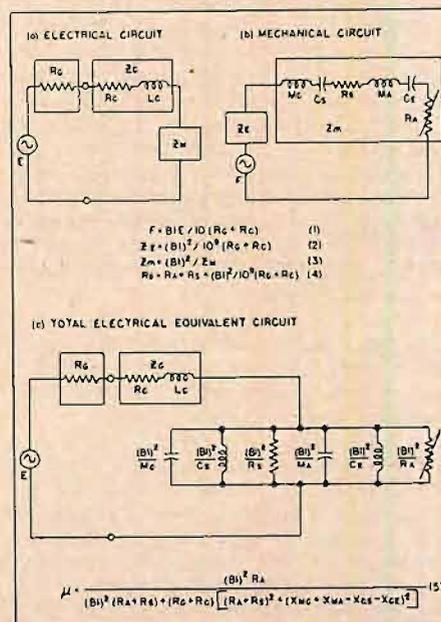
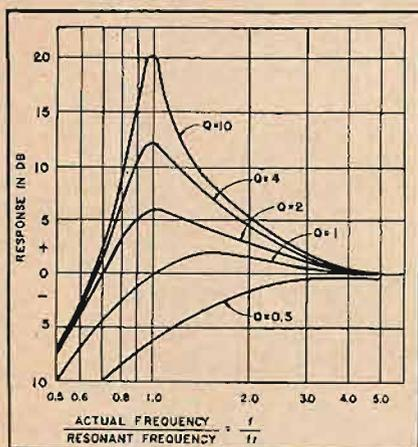
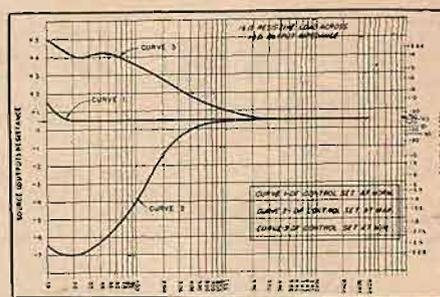

Fig. 1. Electrical and mechanical equivalent circuits of loudspeaker driven by amplifier.
Fig. 2. Relative response of loudspeaker for different values of  $Q$ .
Fig. 4. Variation of amplifier source resistance permitted by DF control when using a resistive load.
Let us examine these claims by referring to the equivalent circuit of an enclosed-cabinet single-cone loudspeaker shown in Fig. 1. Constant-voltage generators are shown in the electrical equivalent circuits at (a) and (c), and a constant-force generator in the mechanical equivalent circuit at (b). Equation (4) represents the total resistance  $R_D$  acting in series with the reactive components of motional impedance  $Z_M$  to produce damping. Any increase in the value of  $R_D$  will increase the damping on motion of the speaker cone. Inspection of both Eq. (4) and (b) of Fig. 1 shows that an increase in radiation resistance  $R_A$ , mechanical resistance  $R_S$ , or gap flux density  $B$  will increase the damping. Conversely, a decrease in amplifier source resistance  $R_G$  or d.c. voice-coil resistance  $R_C$  will increase the damping. Horn loading will increase  $R_A$ .  $R_S$  is designed into the speaker and inspection of Eq. (5) shows that as  $R_S$  is increased the efficiency  $\mu$  of the speaker decreases. This makes it desirable to have  $R_S$  as small as possible in relation to  $R_A$  if damping can be obtained from another source.  $B$  can be increased by using a larger more expensive magnet than is obtainable in speakers of moderate cost. The winding length  $l$  can be increased by using more turns of wire on the voice coil, but since there is only a limited amount of space in the voice-coil gap and resorting to smaller diameter wire will increase  $R_C$ , there is an optimum wire size and winding length beyond which little improvement can be gained.  $R_G$  can be decreased by decreasing the amplifier source resistance, and as far as damping is concerned, a decrease in  $R_G$  is exactly equivalent to increasing the gap flux density  $B$ .
Another limit we can observe, if all that interests us is damping of cone or enclosure transients at resonance, is the reduction of the  $Q$  of  $Z_M$  at resonance. When the  $Q$  of a resonant circuit is made equal to 1, the frequency response is flat throughout the range of resonance but there is some transient overshoot. If the  $Q$  is made equal to 0.5, the circuit is said to be *critically damped* and there is no transient overshoot but the frequency response begins to droop below the range of resonance. This effect is shown in Fig. 2. The droop below resonance is explained by considering (b) of Fig. 1. The  $R_A$  of the speaker diaphragm (or apparent diaphragm at the horn mouth if the speaker is horn loaded) begins to decrease as the square of the wavelength below the critical wavelength (the wavelength that is equal to the circumference of the diaphragm). This effect alone will produce a 12 db/octave droop in sound output below the critical wavelength. The reactance of  $C_E$ , the compliance of the air in the enclosure, and  $C_S$ , the compliance of the cone suspension, become increasingly large below the fundamental resonant frequency and account for an additional 6 db/octave droop below resonance. ( $M_C$  is the mass of the cone and  $M_A$  is the mass of the air.) The  $Q$  of the resonant circuit can be decreased by increasing the value of either  $R_A$  or  $Z_M$ . An increase in  $R_A$  can be produced by horn loading and will result in a higher critical wavelength. On the other hand, an increase in  $Z_M$  will not alter the critical wavelength but will have the same effect on damping as horn loading. So we see that in a speaker system that has its critical wavelength at a higher frequency than its fundamental resonant frequency, the effect of resonance may be used to reinforce the response between these two critical frequencies. By making the  $Q$  equal to 1, we will
achieve optimum flatness in the frequency response. The  $Q$  of the mechanical equivalent circuit of (b) in Fig. 1 may be expressed as
where  $X_M$  represents the total inductive reactance of  $(M_A + M_V)$ . In the total electrical equivalent circuit of (c) in Fig. 1, the equivalent expression for the  $Q$  is
The circuit employs a simple bridge circuit inserted into the common side of the output transformer secondary. A voltage is developed across the 0.47-ohm and the 0.27-ohm resistors that is proportional to the current flowing through the speaker load. This current-proportional voltage is sampled by the slider on the 25-ohm potentiometer and fed back through low-pass filter RC as current feedback to the cathode of the first stage where it is added with the over-all negative voltage feedback. At a certain position of the potentiometer slider, there will be no voltage developed between slider and ground and, therefore, no current feedback. On either side of this position the slider will sample either a positive or a negative current-proportional voltage depending whether the slider is moved toward the 0.47-ohm or the 0.27-ohm resistor, respectively. By this means the effective source resistance of the amplifier may be varied between wide limits in the positive (negative current feedback) as well as the negative (positive current feedback) direction. Figure 4 shows the range of variation plotted for both source resistance and  $DF$ . Inasmuch as these curves were taken for the purpose of calibrating the  $DF$  control, a 16-ohm resistive load was used across the 16-ohm secondary. With a speaker load, the range of variation will be a function of the  $R_e$  and  $Z_M$  of the speaker. For a speaker with a rated impedance of 16 ohms, the  $R_e$  will be much less than 16 ohms and the  $Z_M$
The type of curves shown in Fig. 4 were found desirable to compensate for both the rise in low-frequency sound output produced with low damping and the roll-off produced with high damping by changing the *apparent* efficiency  $\mu$  of the speaker system. This can be seen clearly by inspecting Eq. (5) in Fig. 1. If the term  $(R_o - R_c)$  increases in value, the efficiency is reduced. Conversely, if  $(R_o + R_c)$  decreases, efficiency is increased. However, this change in efficiency is only apparent since it requires that additional power be dissipated in  $(R_o + R_c)$  for its accomplishment.